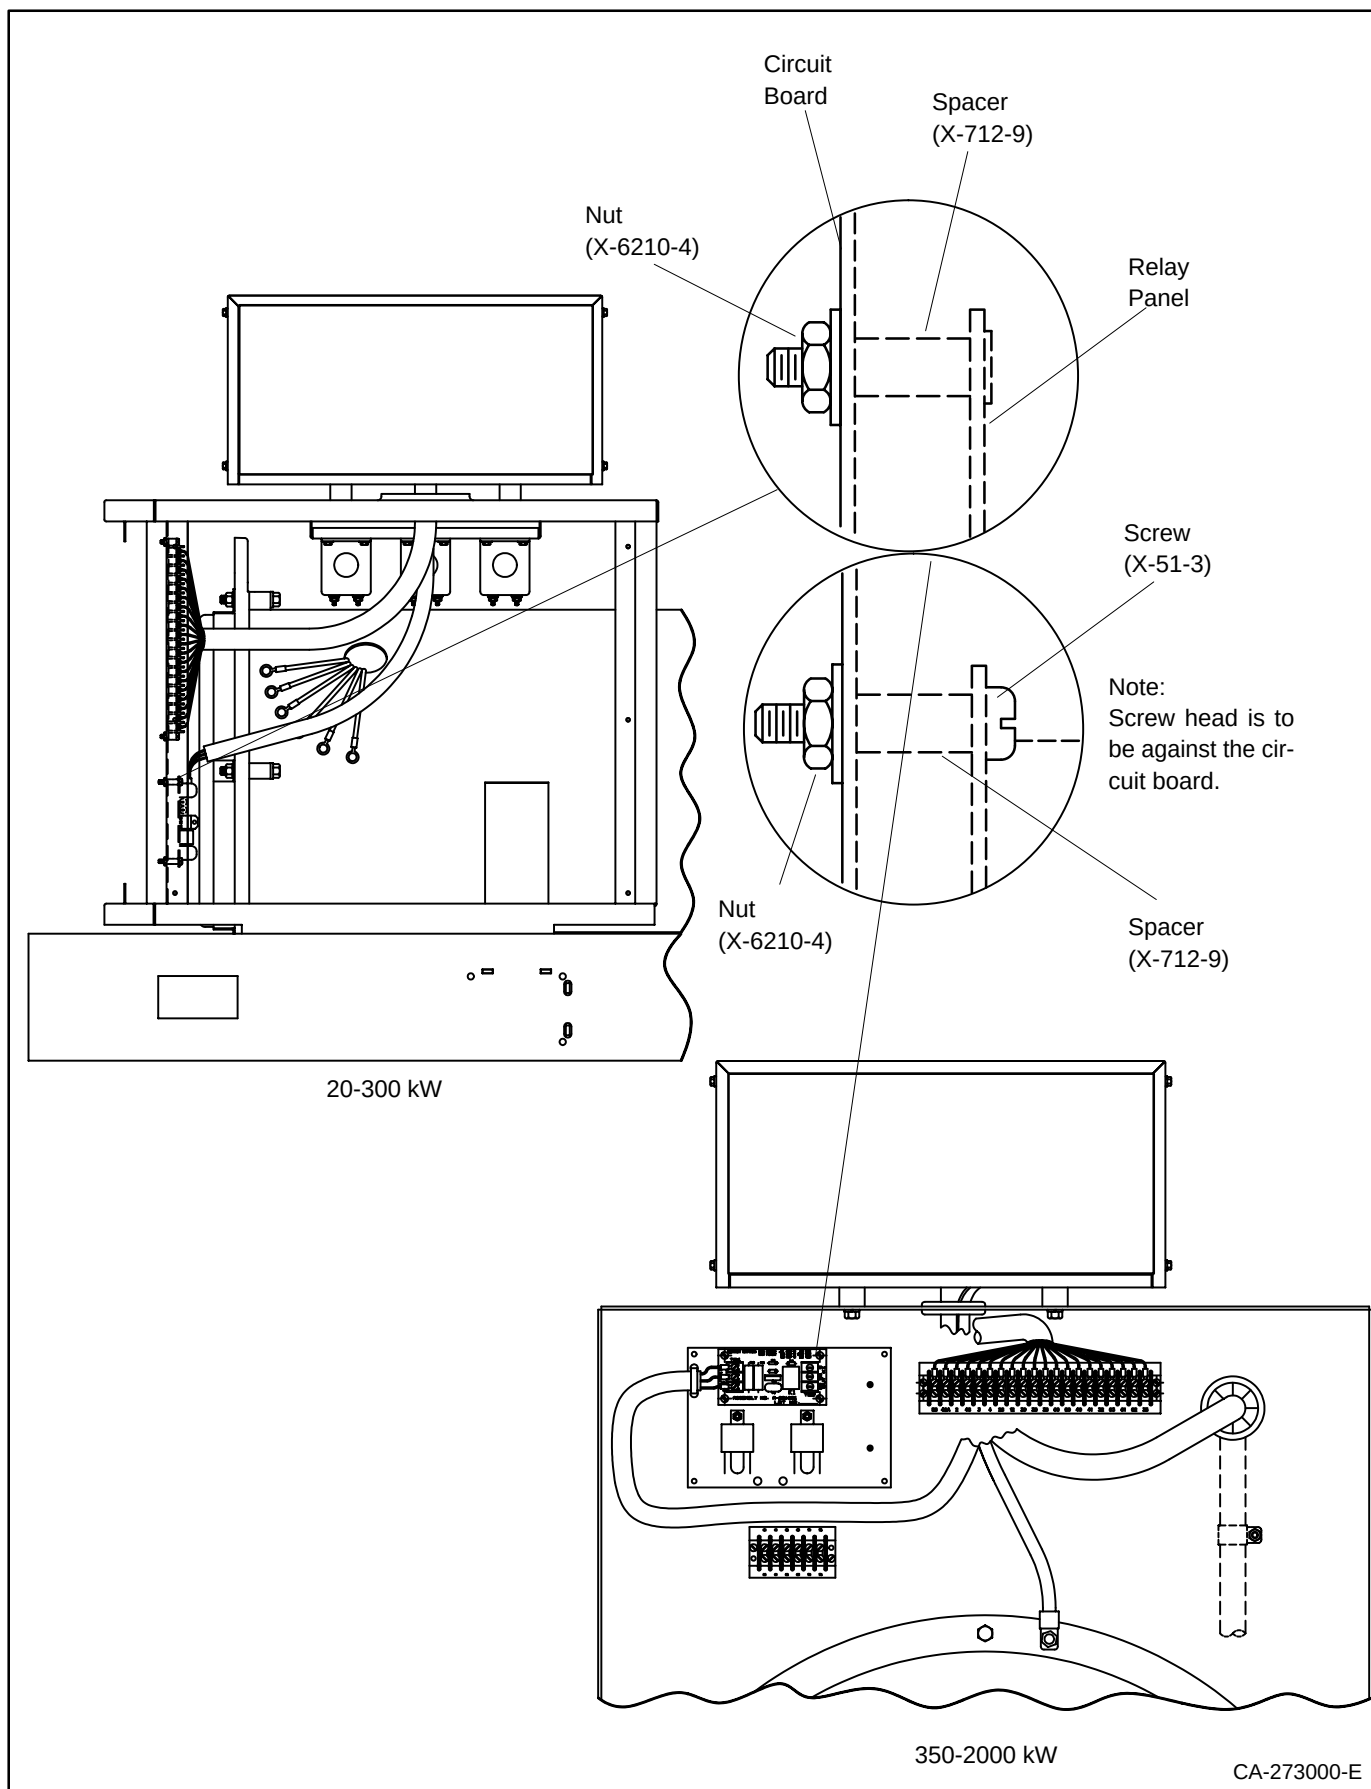

Figure 2. Common Fault Relay Kit Installation
3. Mount the common fault relay inside the junction box. Drill four 3/16 in. (5 mm) diameter holes in the generator panel using the relay board as a template. See Figure 2.
4. Attach the relay to the junction box with screws (X-51-3), spacers (X-712-9), and nuts (X-6210-4). See Figure 2.